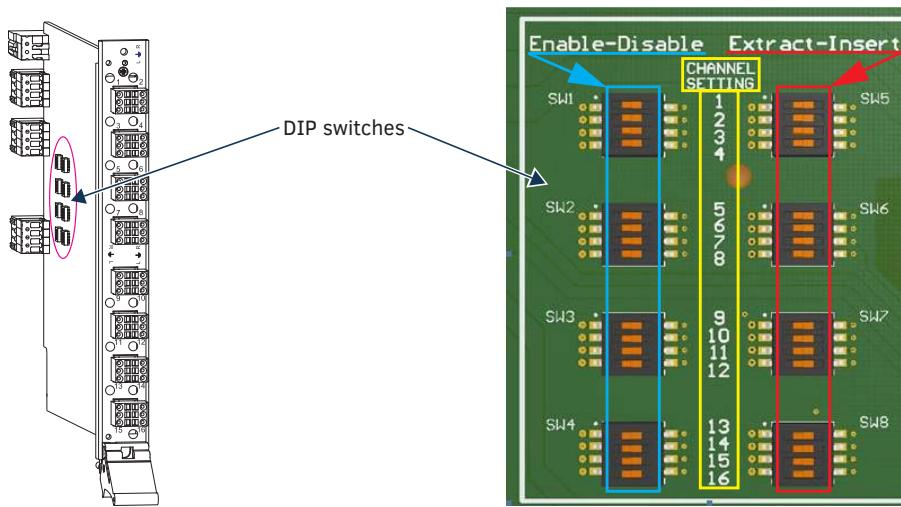

FIG. 90 Flip DIP switches to change settings
Each board has two DIP switches per AIE connector with the corresponding AIE connector number displayed vertically between the switches (labeled “Channel Setting” – see FIG. 90 below).
- Located on the left (see blue rectangle in FIG. 90).
- Located on the right (see red rectangle in FIG. 90).